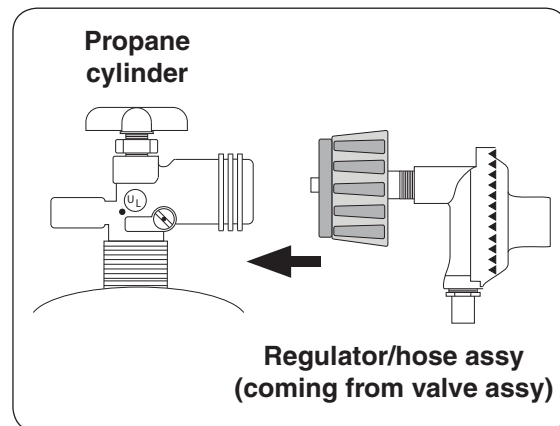

Fig. 23-1 Connecting to an L.P. cylinder
2. Attach the regulator end of the hose assembly to a propane cylinder (not included) and tighten (see Fig. 23-1).